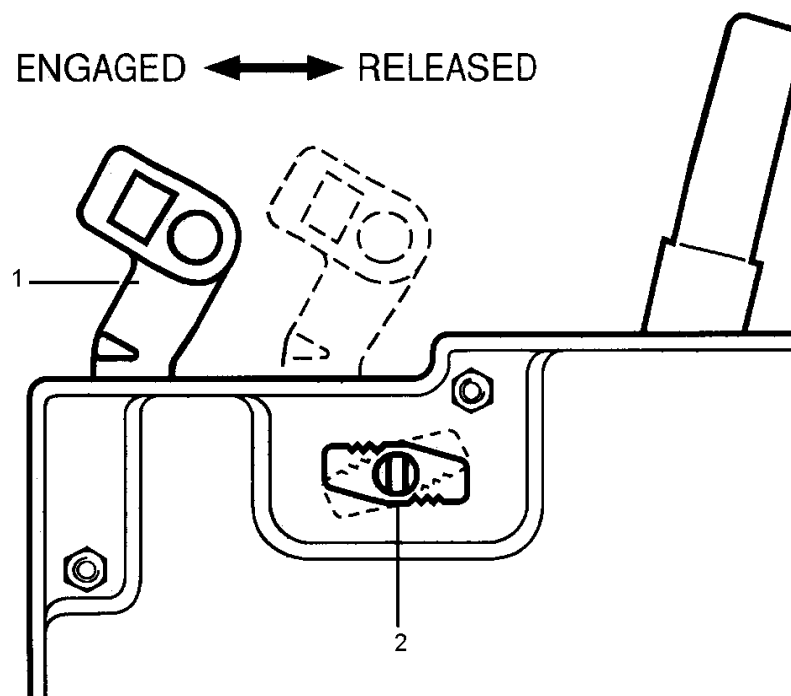

Figure 3. 82 Rope Release Lever
- 3.17.3.8 Extend the telescopic operating handle (Figure 3. 81) until the spring locks into position. If necessary twist the two sections of the handle, one inside other, to align the spring.
- 3.17.4.1 Each winch is fitted with a lever (Figure 3. 82 Item 1) for releasing the jaw mechanism, which should only be operated when the winch is not under load.
- 3.17.4.2 There are two positions for the rope release lever (Figure 3. 82) released or engaged.
- 3.17.5.1 Turn the rope release safety catch (Figure 3. 82 (2)) and push the rope release lever (Figure 3. 82 (1)) towards the anchor pin until it locks into position when raised slightly at its limit.
- 3.17.6.1 Turn the rope release safety catch (Figure 3. 82 (2)).
- 3.17.6.2 Press the rope release lever (Figure 3. 82 (1)) vertically downwards, allowing the lever to travel back to its original position under the effects of its spring. Release the safety catch (Figure 3. 82 (2)).